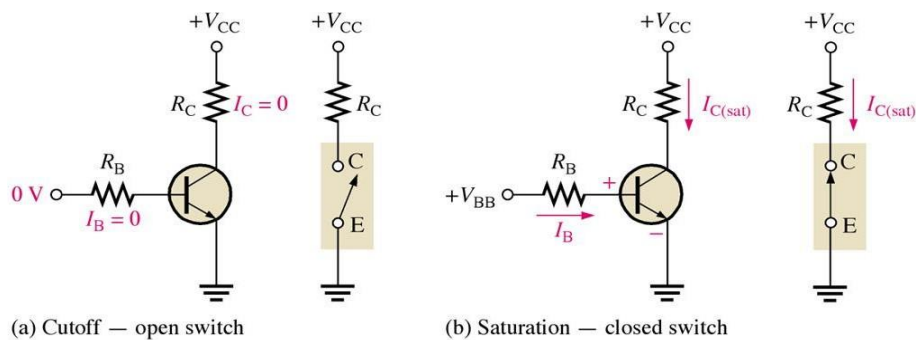

Figure 3.9 Basic transistor amplifier circuit
- If the base-emitter junction is not forward-biased, the BJT is in the cutoff (switched off) and there is an open circuit between collector and emitter, as shown in Figure 3.9 (a).
- If the base-emitter junction and base-collector junction are forward-biased, the BJT is in the saturation (switched on). There is a short circuit between collector and emitter, as shown in Figure 3.9 (b).